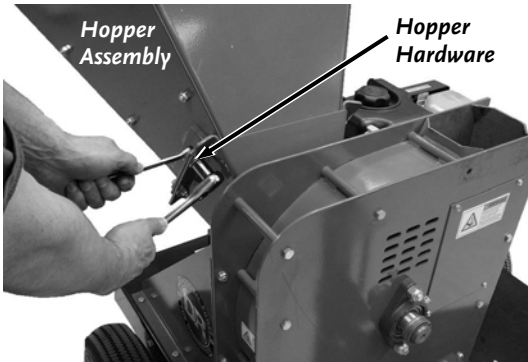

Figure 7
1. Attach the Hopper Assembly to the Chipper with six 5/16"-18 x 1" Bolts, twelve Flat Washers (one Washer on Bolt side and one on Lock Nut side) and six Nylon Lock Nuts (**Figure 7**).